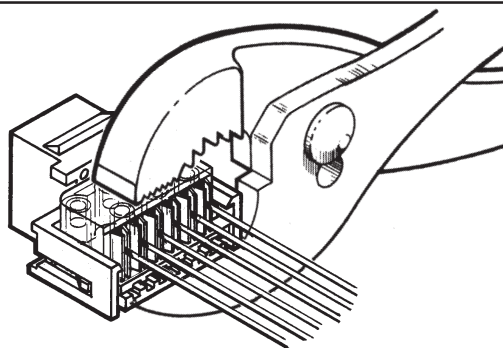

Figure 5
4. Using slip-joint pliers, terminate wires by pressing stuffer cap down over terminals until latches on cap engage jack assembly (Figure 5).